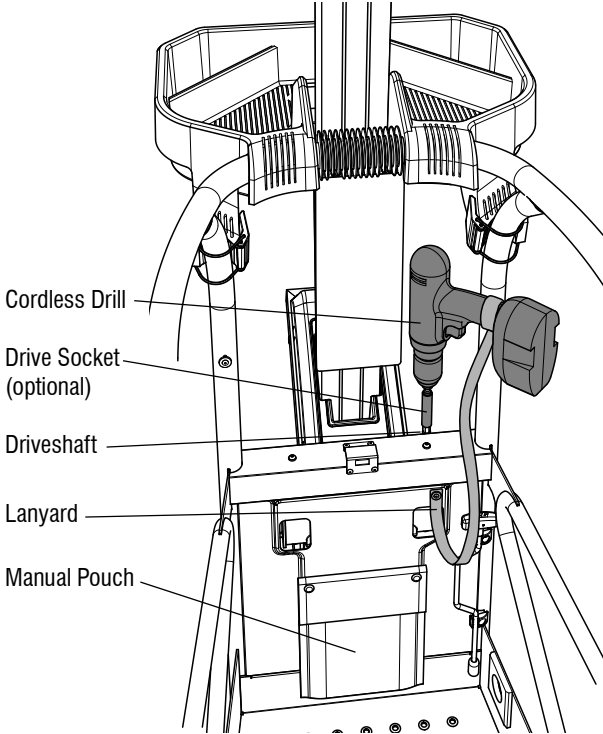

Figure 3-9. Cordless drill installation
- 6. Fasten lanyard securely around the handle of the cordless drill. Attach the cordless drill to the top of the driveshaft, either using the supplied 7/16 (11mm) deep well drive socket (located in manual pouch), or by tightening the drill chuck directly to the hexagon on top of the driveshaft (see Figure 3-9).